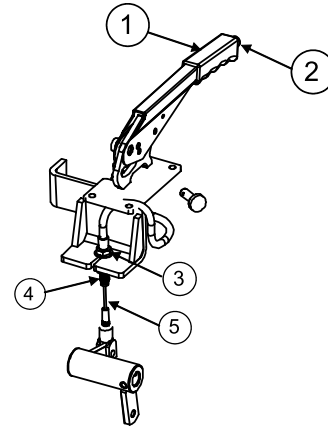

Fig.5-18 Parking brake adjustment
5.21 Parking Brake - (Fig. 5-18)